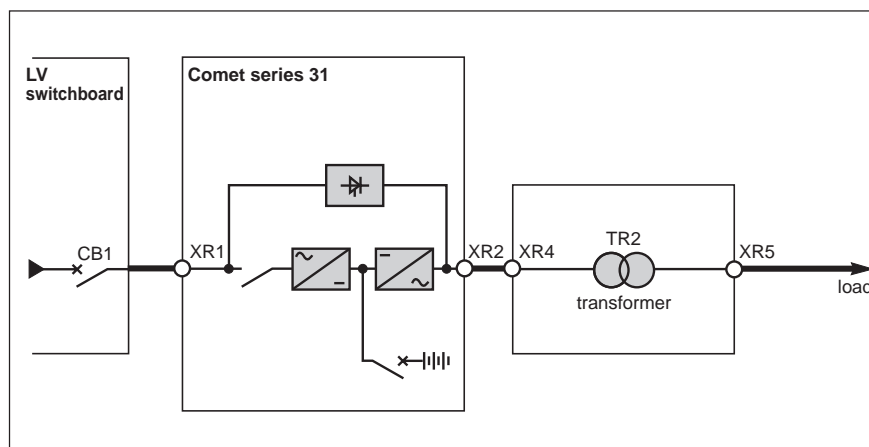

Fig. 27
- between the Comet load output terminals and the load for Comet series 31 (see figure 27).